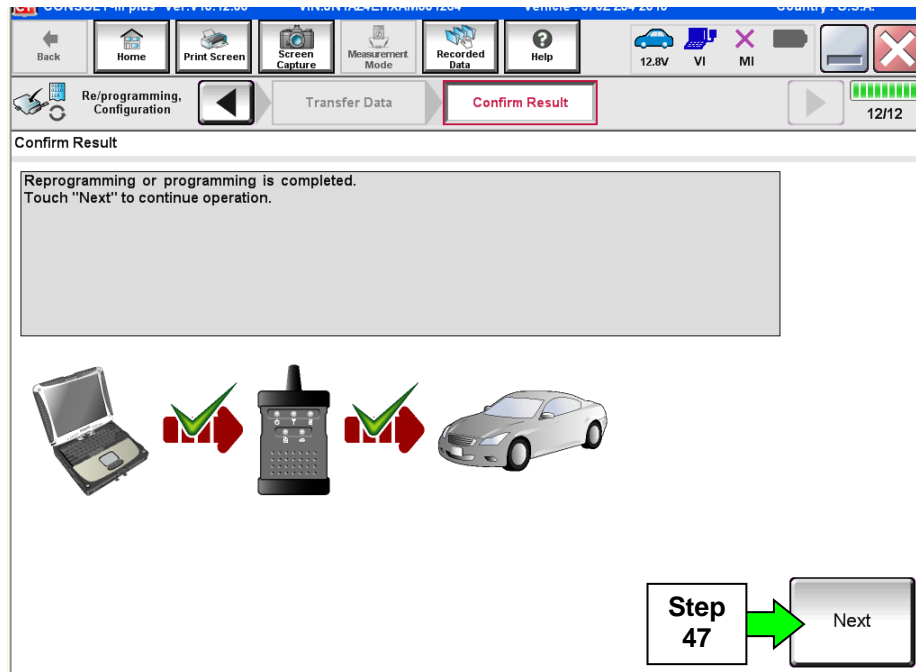

Figure 24
45. When the screen in Figure 24 displays, the reprogramming is complete.
**NOTE:** If the screen in Figure 24 does not display (which indicates reprogramming did not complete), refer to the information on the next page.